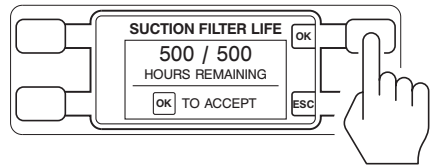

Figure 7 – To Accept Timer Value
6. Press the display button (OK) to accept the change. Press the display button (ESC) to cancel the change (Figure 7).